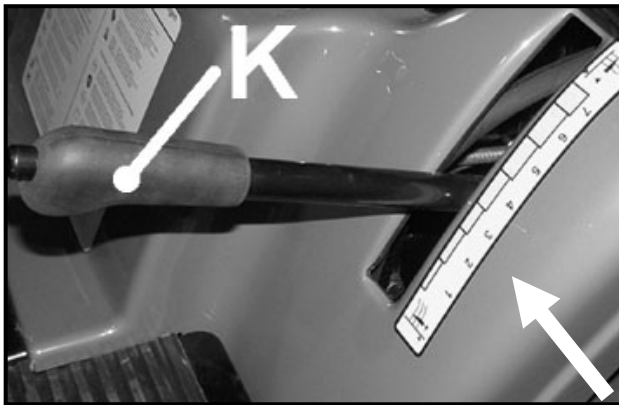

Fig.9
**Attention!** Do not activate the cutting mechanism of the self-moving cutter in the lower position. Before activation lift the cutting mechanism minimally into the 3rd position of the lifting lever of the cutting mechanism, Fig.9; then lift the drive of the cutting mechanism or you can lower the cutting mechanism into the lowest position.
Setting the height of the cut is performed by the lever “K” (Fig.9) in seven possible positions. When changing positions in a downward direction it is necessary to release the arrester by pressing the button at the end of the lever.